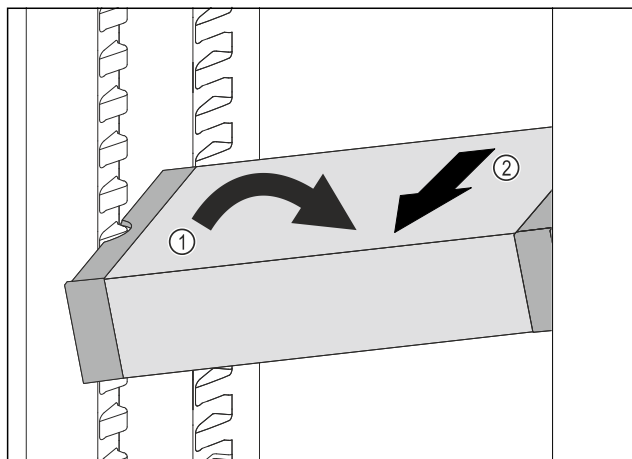

Fig. 136
- Set VarioSafe in refrigerator compartment at an angle. Fig. 136 (1)
- Take VarioSafe out to the front. Fig. 136 (2)